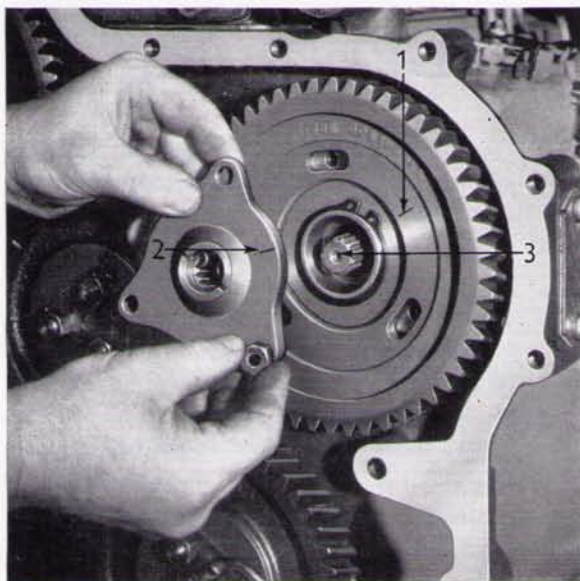
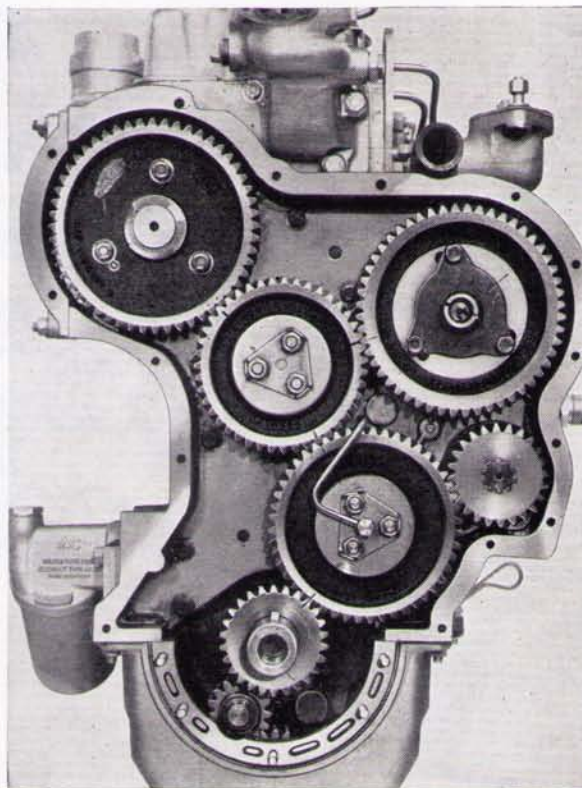
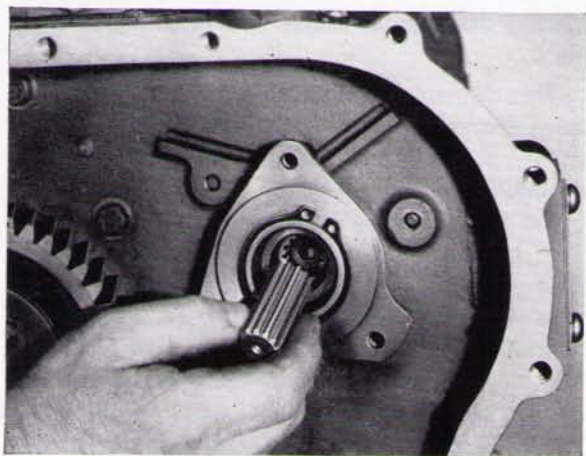

Fig. M.2.
Fig. M.3.
Fig. M.6.
By removing the inspection cover, to which the engine breather pipe is attached, access can be gained to the fuel pump drive gear to allow adjustment to the fuel pump timing. This is provided for by slotted holes in the fuel pump gear, Fig. M.2 allowing movement between it and the gear adaptor, once the securing setscrews are slackened. All the timing gears are suitably marked. These marks must be aligned when No. 1 piston is at top dead centre on its compression stroke. (See Fig. M.3). It will be appreciated that these timing marks will not align at every rotation of the crankshaft when No. 1 piston is at top dead centre on compression.
3. Remove the driving gear adaptor leaving the splined quill shaft in the fuel pump (See Fig. M.2). A circlip which retains the fuel injection pump quill shaft in position is located in the front of the adaptor. Fig. M.6 shows the removal of the quill shaft.